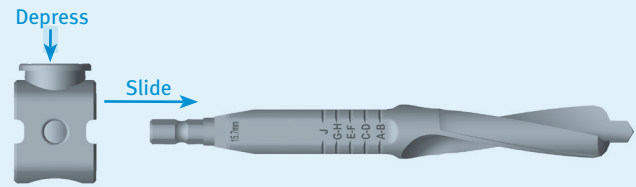

Fig. 52
- If desired, the Cemented Tibial Drill Stop Collar, may be used to aid in drilling to the correct depth. Depress the button on the Cemented Tibial Drill Stop Collar and slide the Cemented Tibial Drill Stop Collar to the desired size-specific position on the Cemented Tibial Drill (Fig. 52).